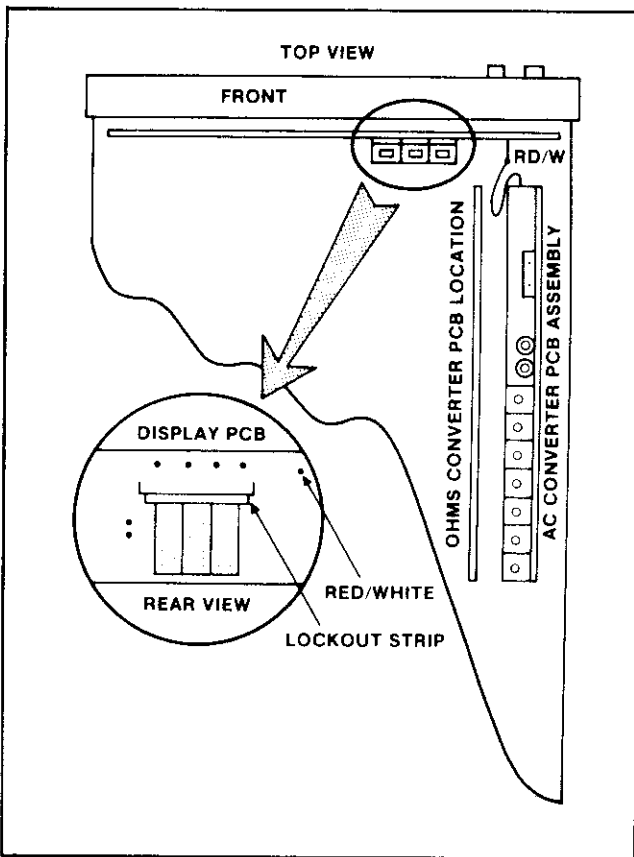

Figure 608-2. AC Converter PCB Installation Details
shown in Figure 608-2. The AC Converter PCB mates with pins provided on the Main PCB. Press the pcb into place.
4. Connect the red/white wire on the AC Converter PCB to the pin marked RD/W (See Figure 608-2) on the rear of the Display PCB Assembly.